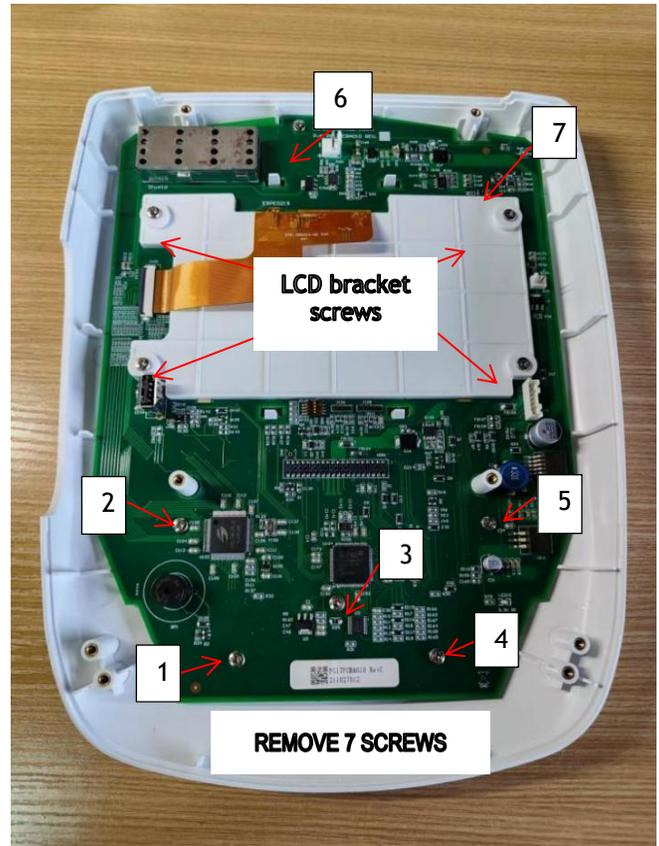

Figure 7.17
5. Remove 7 screws securing the Control Board Assembly in position. See Figure 7.17.
6. Remove the four LCD Bracket Mounting Screws. See Figure 7.17.
7. While lifting on the lower end of the Control Board Assembly with one hand, release the four Tabs securing the Control Board with the other, to remove the Control Board from the system Top. Two of the Tabs are located above the LCD and two below. See Figures 7.17 and 7.18.